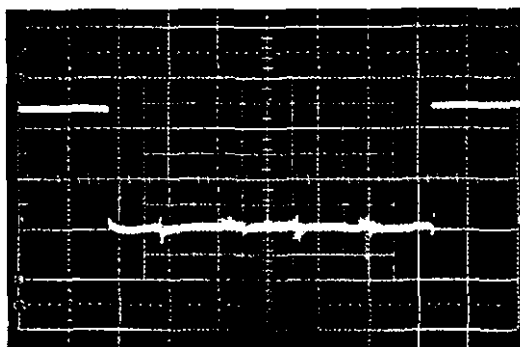

Figure 7-2. Thyristor Gate Pulses
- g) Observe the waveform displayed on the oscilloscope. The waveform should be similar to that shown in Figure 7-2. Amplitude should be approximately 12 volts peak-to-peak with a variable time duration dependent upon AC input voltage and output voltage setting. The waveform illustrated was taken with the rectifier operating at 208 VAC input and 52 VDC output with 50% load.